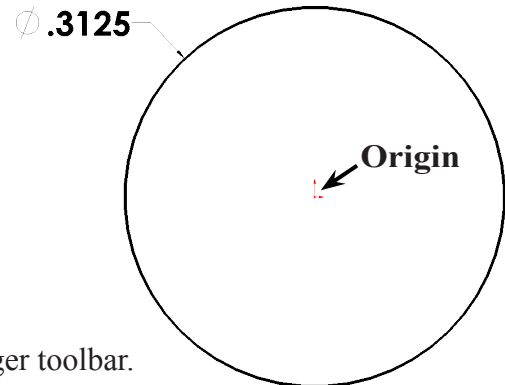

Fig. 2
Step 3. Click **Circle**  (S) on the Sketch toolbar.
Step 4. Sketch a circle starting at the Origin , **Fig. 2**.
Step 5. Click **Smart Dimension**  (S) on the Sketch toolbar.
Step 6. Dimension circle **diameter 5/16**, **Fig. 2**. The dimension will convert to decimal .3125.